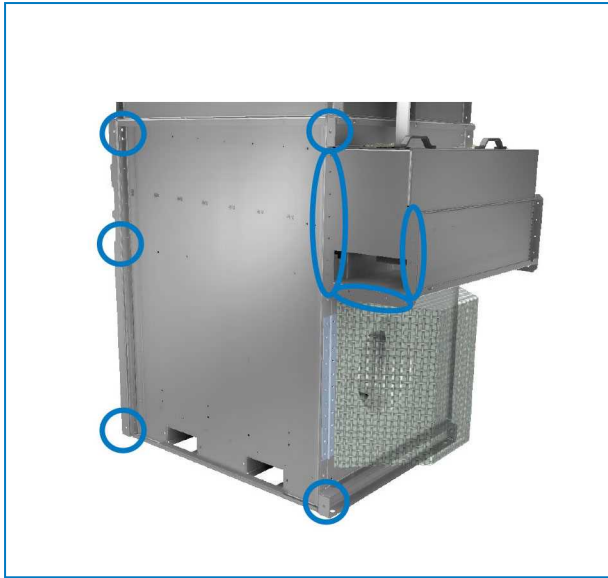

Fig. 10C Location of bolts required to join modules
3. Bolt the modules together at the locations shown in figure 10C. Use M10 bolts at circled locations and M8 bolts in the sump area.